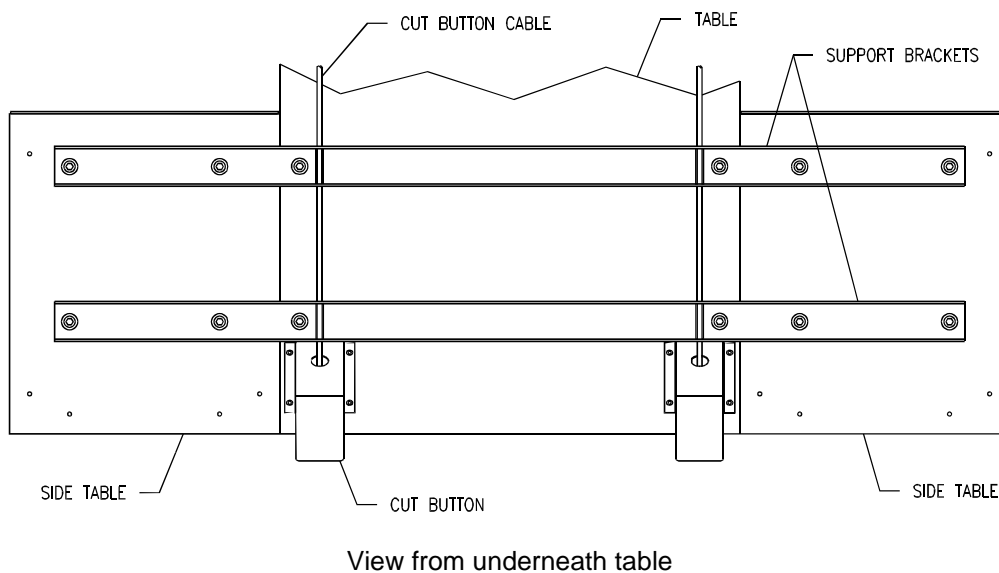

Figure 10
Using (4) 3/8-16 cap screws and washers, attach the table supports to the under side of the main table (Figure 10), making sure to route each cut button cable through the slots in the brackets. Lay the side tables on top of the support brackets and insert the mounting hardware. Slide the table extension tight to the table and tighten the hardware.